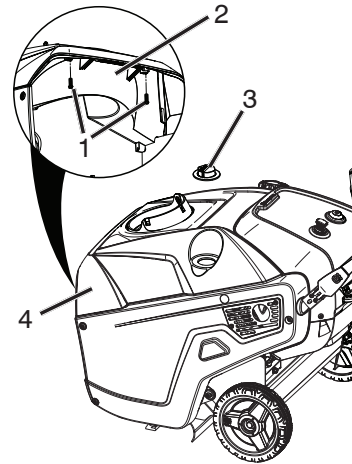

Figure 26
6. Remove two screws in plenum that hold top cover (Figure 26).
28. Reinstall two screws in the plenum that attach to the top cover (Figure 26).